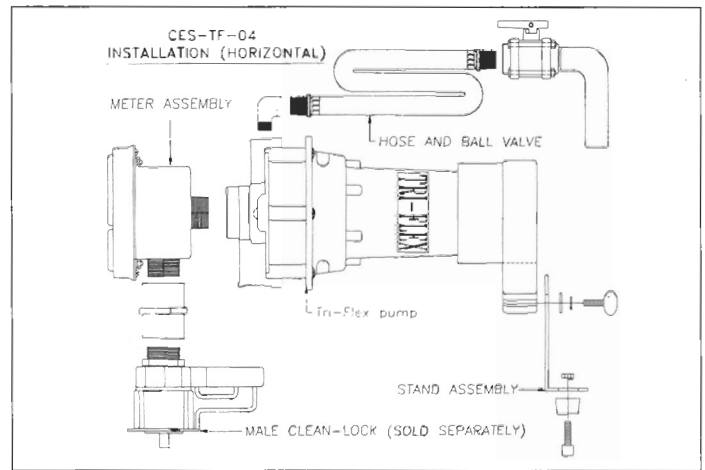

Figure 3. Mounting the CES-TF-04
(Figure 3)
2. When using the system with a meter, the meter should be assembled as shown on the CES-TF-04 (Figure 3) between the Clean-Lock and pump inlet. At start up, pump should be operated until system is filled with fluid, then shut off. Meter can then be reset to zero, to accurately show amount dispensed.